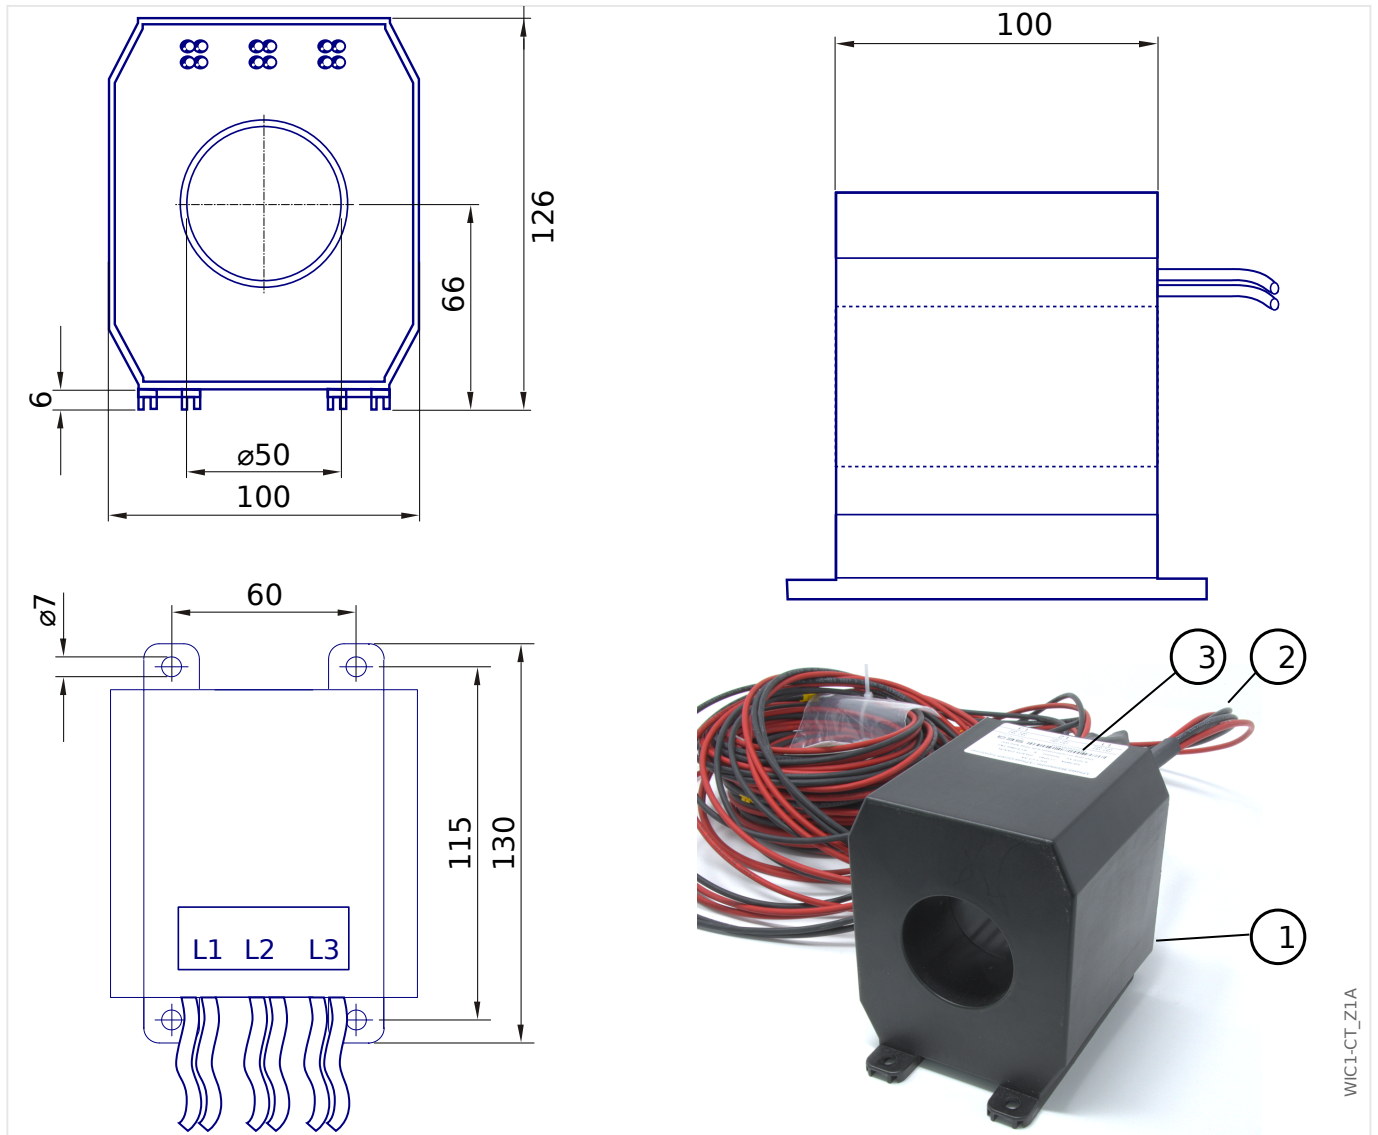

Fig. 15: Adapter CT, WIC1-CT-1A / WIC1-CT-5A (panel mounting).
- The housing (see Fig. 15) contains three Adapter CTs, so that all three phase currents are covered. Therefore you need to buy only one unit, see also "Adapter CTs for 1 A or 5 A".